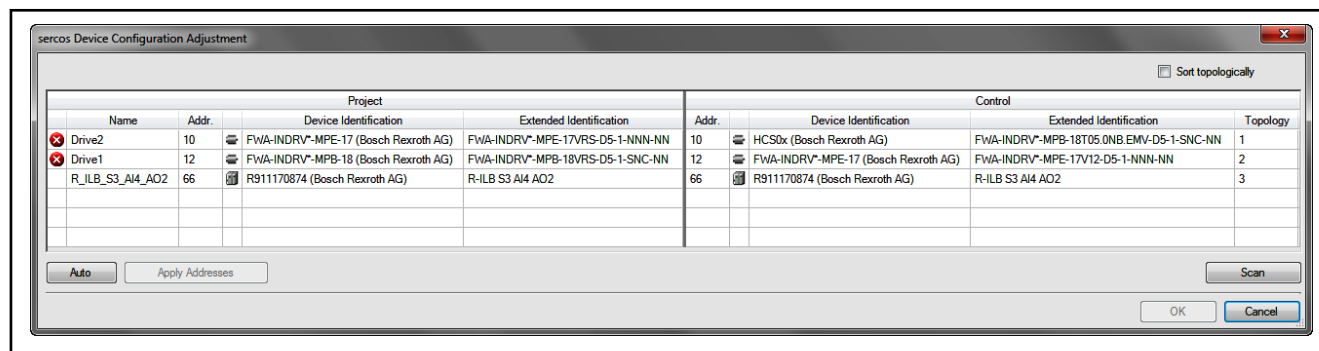

Fig. 7-8: "Sercos device Configuration" dialog after pressing **Auto**
3. Click on **Auto**. IndraWorks tries to adapt the activation of the projected devices to the actually found devices to match them the best possible (see fig. 7-8 "Sercos device Configuration" dialog after pressing **Auto** on page 528).